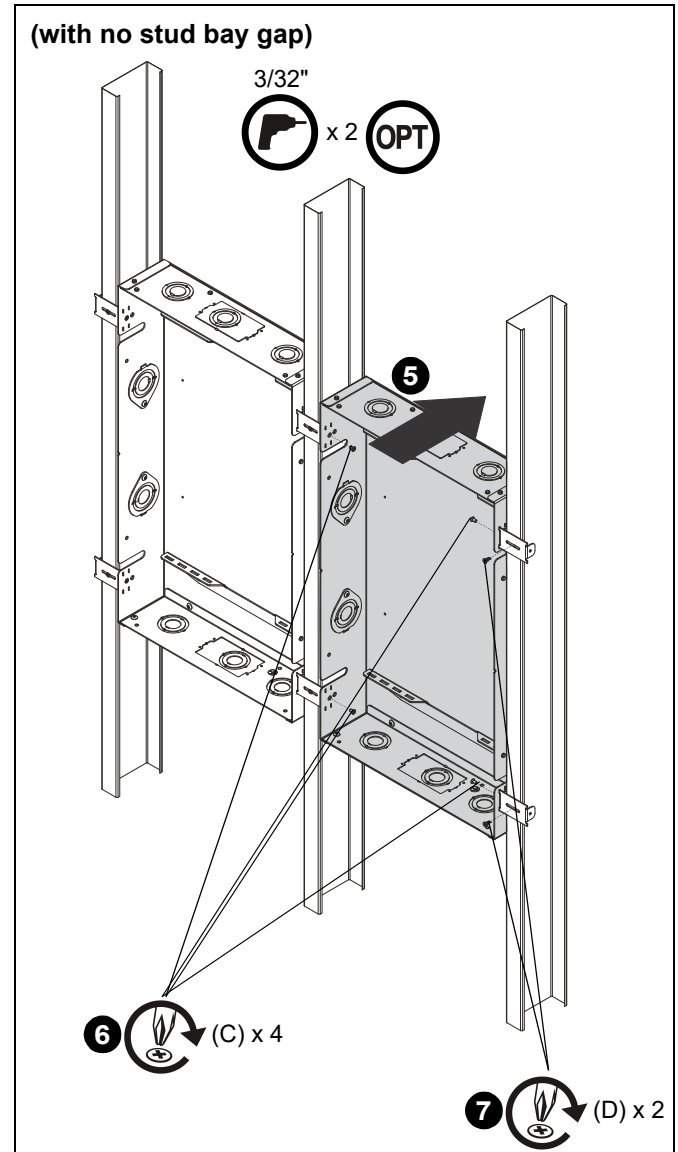

Figure 6
5. If mounting with no gap, position second box (A) level with first box. (See Figure 6)
6. Use four #6 x 1/4" Phillips flathead screws (C) to secure box to four stud tabs (B). (See Figure 6)
7. Use two #6 x 3/8" Phillips tapping screws (D) to secure two stud tabs (B) to studs. (See Figure 6)
NOTE: Two 3/32" pilot holes may be drilled into studs prior to installation of screws if desired. (See Figure 6)